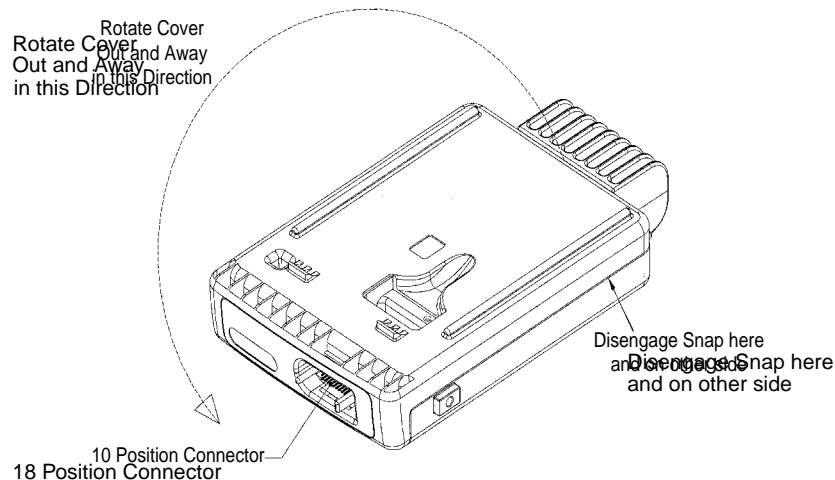

Figure 5-11. Removing the Bottom Cover
4. Insert a wide flat-blade screwdriver or like instrument in the recess area on the side of the radio near the antenna and power connector ends (see Figure 5-11).